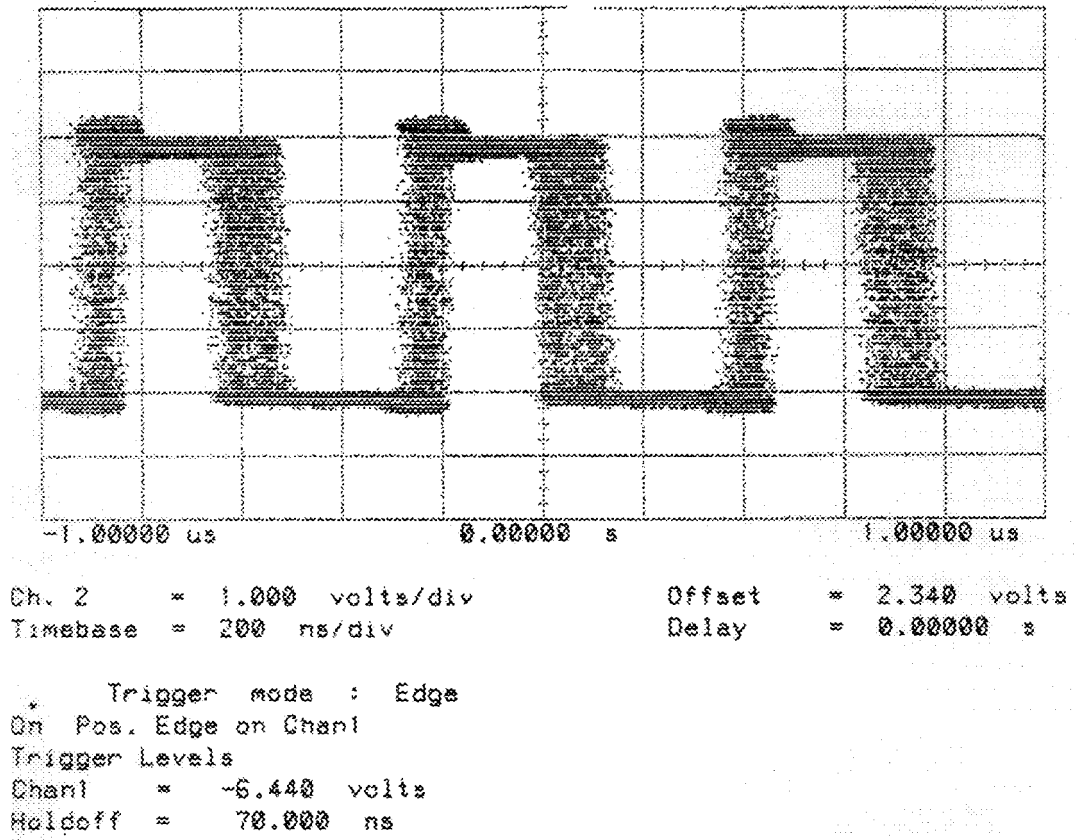

Figure 3-31 2M Clock Recovery, set for minimum jitter.
- 7 Adjust C38 to give minimum jitter on Oscilloscope trace. (see Page 3-96 Figure 3-31).
**17** Adjust C42 to give minimum jitter on the Oscilloscope trace (Figure 3-31), "2M Clock Recovery, set for minimum jitter").